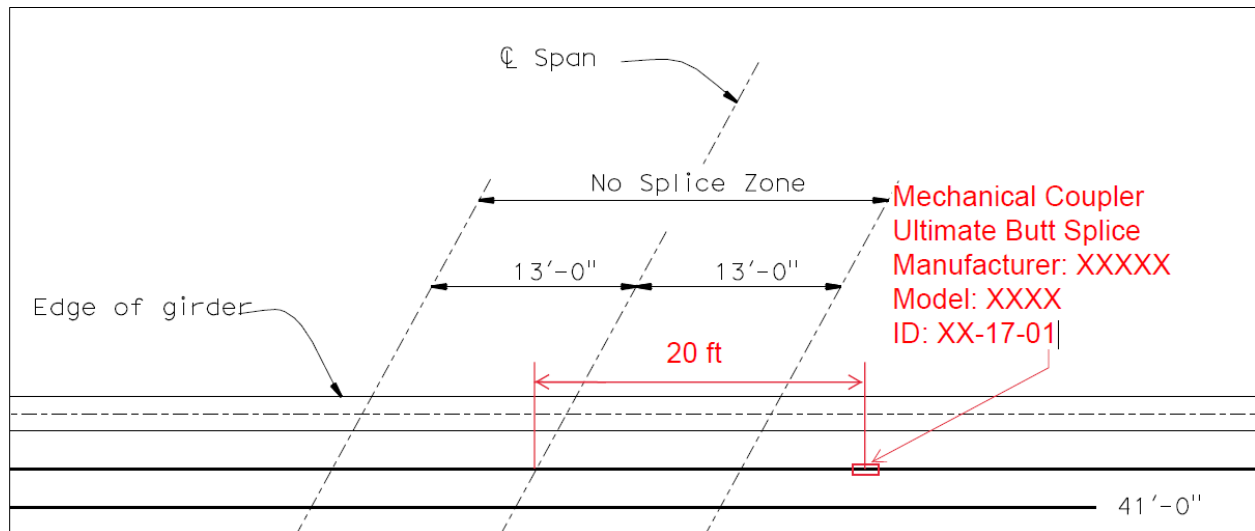

Figure 2. Example of As-Built Project Plan with Coupler Notes
- b. Reinforcing steel splices that are not placed in accordance with the project plans and Contract Specifications. Refer to Figure 2, *Example of As-Built Project Plan with Coupler Notes*.